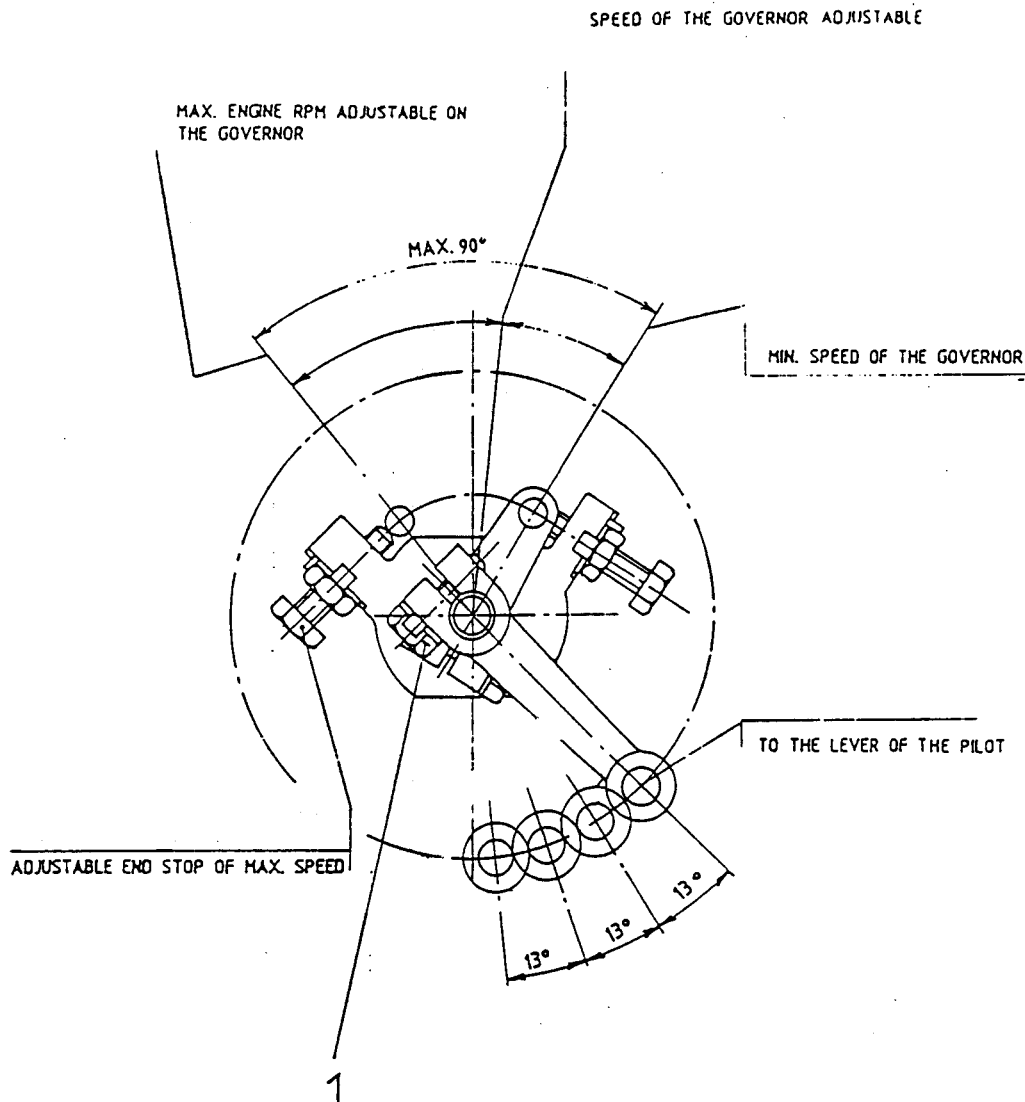
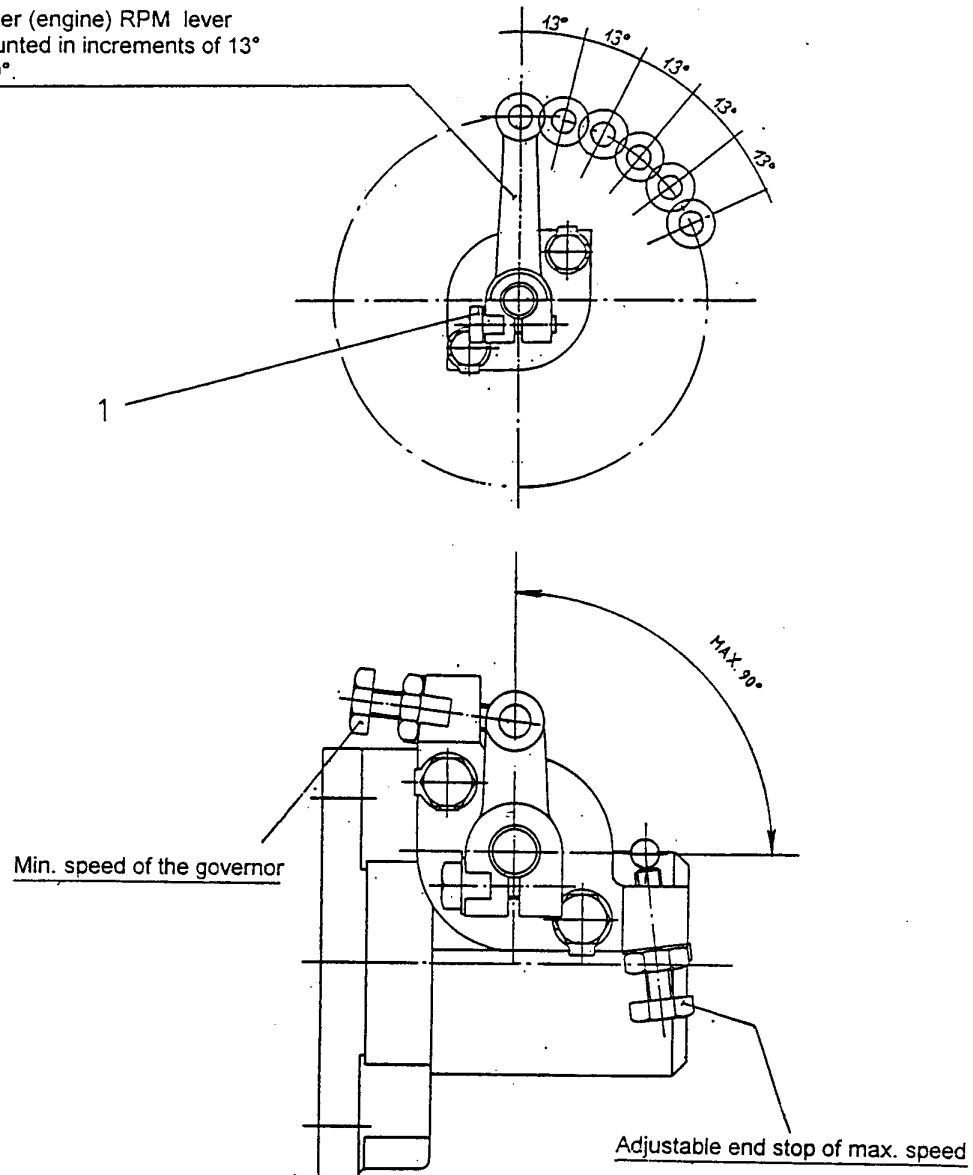

Fig. 9 Control lever adjustment
Fig. 9.1 Control lever adjustment
- 8.1** Loosen and remove the screw securing the lever (fig. 9/fig.9.1).